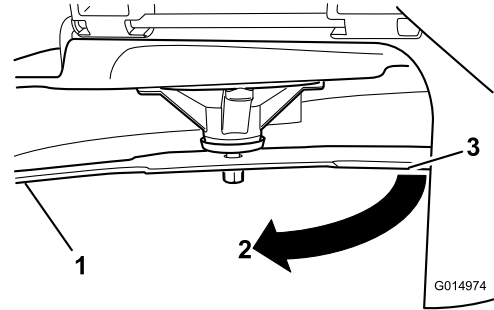

**Figure 50**
2. While wearing thickly padded gloves, or other adequate hand protection, slowly rotate the blade into a position that allows you to measure the distance between the cutting edge and the level surface the machine is on (Figure 50).